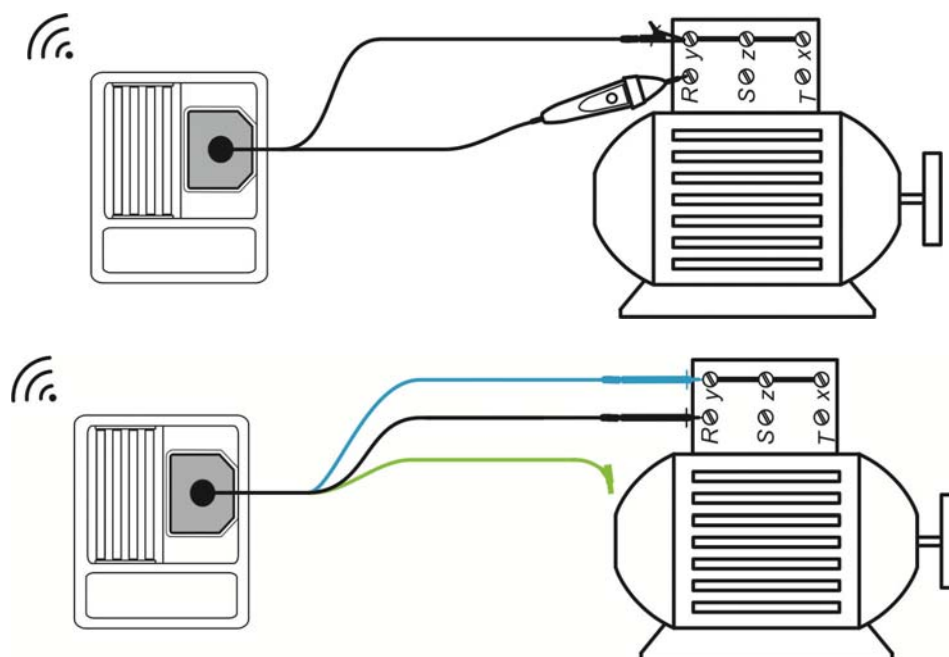

Figure 5.15: Tip commander and 3-wire test lead applications
- ❑ **Connect** test leads to the tested object (see Figure 5.15:).